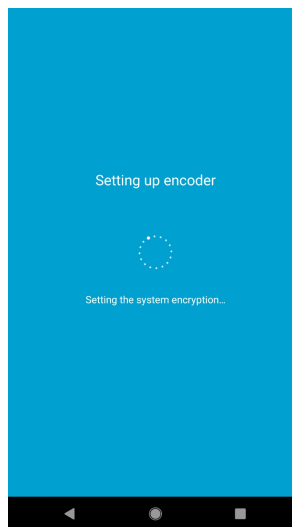

Figure 10
11. *Figure 10*: Setup is in progress; please wait.